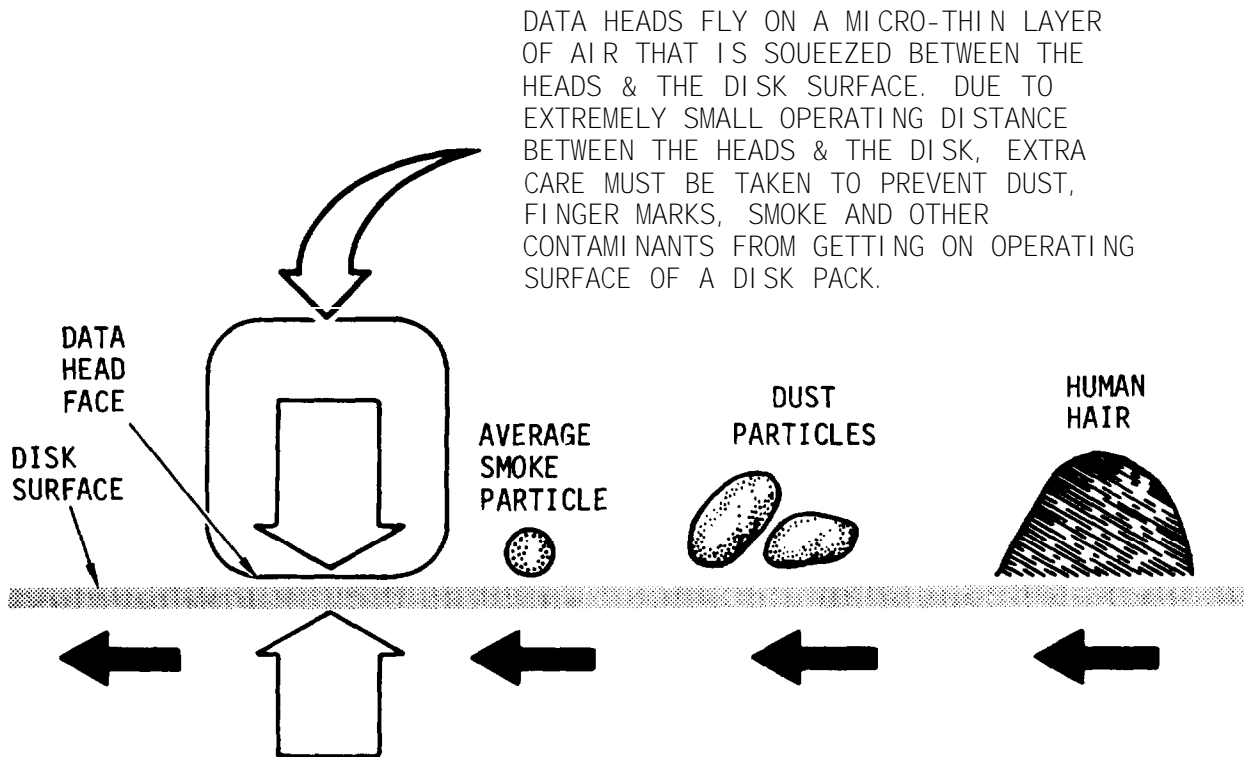

Figure 4-2. Head Flying Distance vs. Contamination Size
- c. Do not smoke in rooms where magnetic disk packs are handled or stored. Smoke particles are larger than the head-to-disk flying distance (figure 4-2) and may cause a head crash.